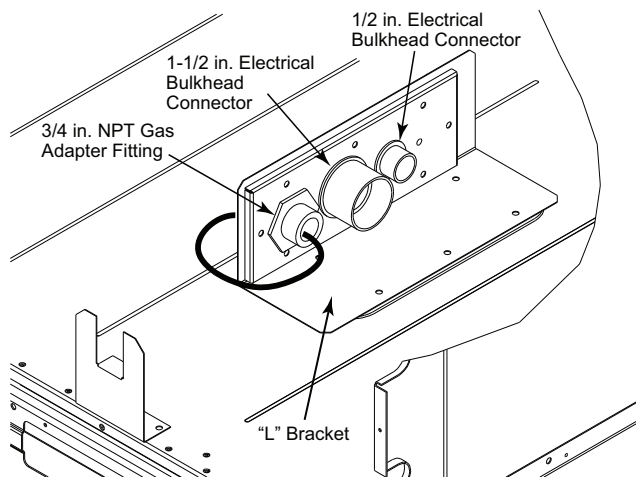

Fig. 17 — Thru-Base Connection Fittings
This service connection kit consists of a 3/4-in. NPT gas adapter fitting (stainless steel), a 1/2-in. electrical bulkhead connector and a 1-1/2-in. electrical bulkhead connector, connected to an “L” bracket covering the embossed (raised) section of the unit basepan in the condenser section. See Fig. 17.
1. Remove the “L” bracket assembly from the unit (see Fig. 17).